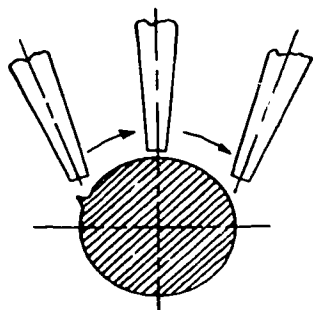

Figure 5-13. Cutting round stock.
**Cutting Round Stock.** To cut round stock, use a chisel to raise a burr on the surface of the metal where the cut is to begin. The burr makes it possible to start cutting without prolonged heating. Start the cut at the side, about  $90^\circ$  from the vertical centerline, as shown in figure 5-13. After starting the cut, raise the torch to the vertical position and hold it in this position for the remainder of the cut. Hold the preheating flame at the same distance from the surface of the metal as you do for cutting sheet stock.